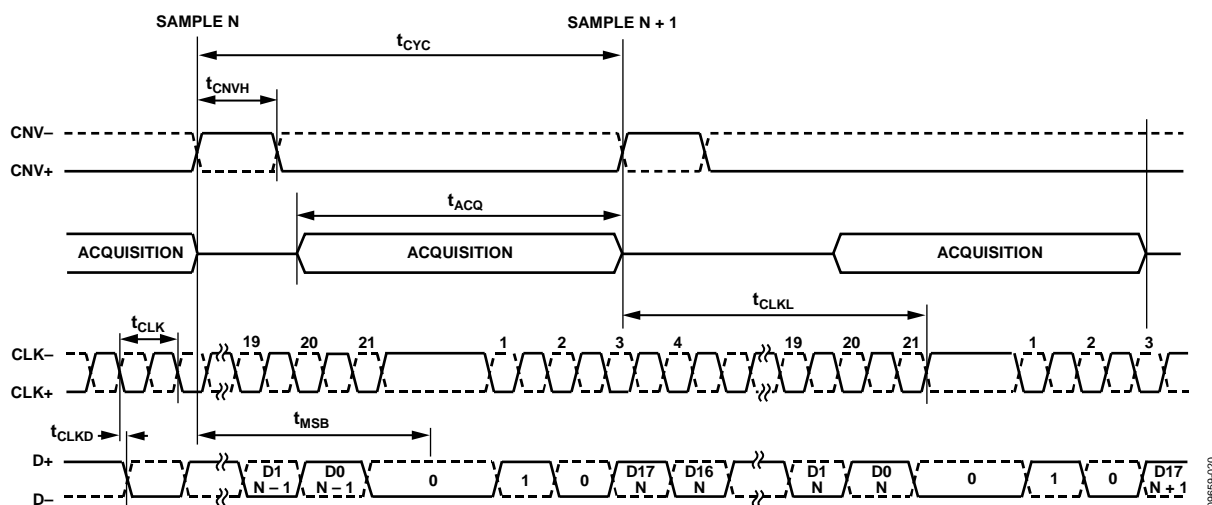

Figure 37. Self-Clocked Interface Mode with Extra Clock Pulse Timing Diagram
When the self clocked interface mode is used, the AD7960 also allows the user to provide an extra (21st) clock pulse to see a guaranteed 0 state at the end of the frame, as shown in Figure 37. After t_{MSB} has elapsed, the first bit of the header sequence, 0, automatically appears on D \pm and the remaining two bits of the header, 10, are then clocked out by the first two CLK \pm falling edges at the beginning of the next sample. This header (010) is used to synchronize D \pm of each conversion in the digital host because, in this mode, there is no clock output synchronous to the data (D \pm) to allow the digital host to acquire the data output.